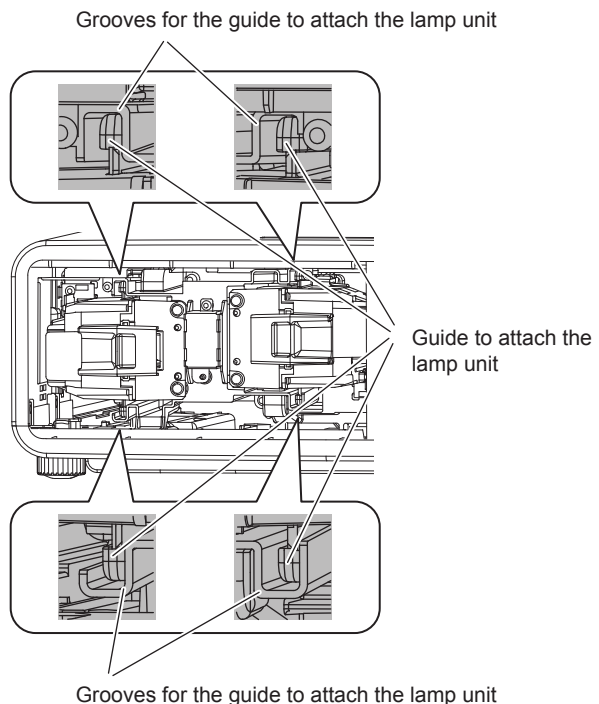

Fig. 3
4) Push in the new lamp unit while paying attention to the insertion position. (Fig. 3)